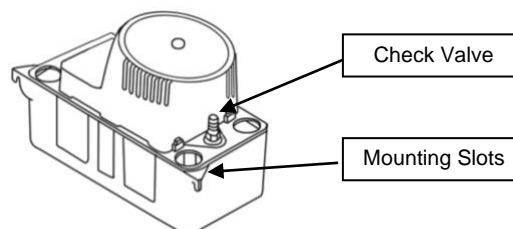

Figure 5
3. Mounting the pump: the tank has two slots provided to mount the unit. The slots are located on the ends of the tank (Figure 5). The unit should be mounted either on the side of the air conditioner unit or nearby wall. Pump must be level and the inlet must be below the coil drain. Conduit fittings are not compatible with the plastic pump housing.
2. The outlet piping should be flexible tubing secured with a hose Clamp (not provided) or pipe (3/8 inch ID. maximum to prevent excessive flow back to unit). From condensate unit, extend discharge piping straight up as high as necessary. Do not extend this line above the head/GPH of the particular model being installed. From this high point, slope discharge line down slightly to a point above drain area; then turn down and extend to a point below or approximately level with the bottom of the condensate unit. This will give a siphoning effect which will improve efficiency of the condensate unit and will, in most cases eliminate the need for a check valve (Figure 5). If it is not possible to slope discharge line down, make an inverted "U" trap directly above the pump at the highest point.